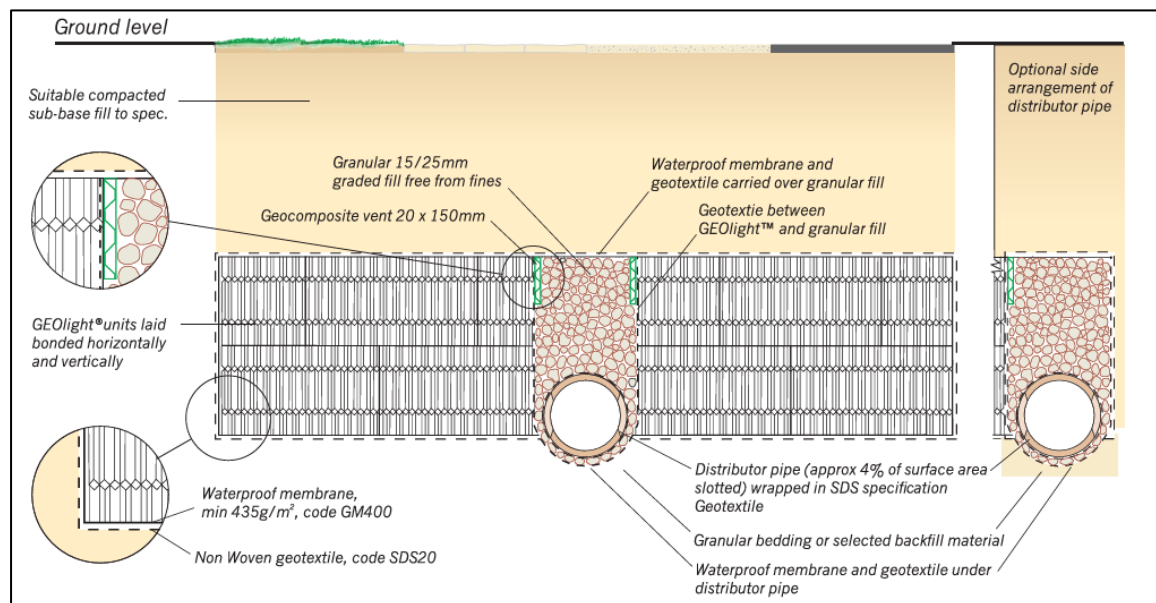

Figure 3: SDS GEOLight Cross Section
- 4.8 Plots 48, 49 & 51 have shown an arrangement that differs from the design outlined within the construction detail on sheet 091.5061.551 C01, this is likely due to the use of the SDS GEOLight. This product typically requires a specific arrangement, including a perforated pipe running centrally through the attenuation crates, as illustrated in **Figure 3** below. However, the contractor has instead installed an in-situ pipe that has been hand-cut with spiral slits to function as a perforated pipe, intended to feed water into the crates. This pipe appears to have been installed without appropriate bedding. Furthermore, the structural integrity of the pipe has likely been compromised due to the hand-cut slits, which is also evident from the CCTV footage. There also appears to be no restraint preventing the pipe from shifting or rotating. As a result, there is no assurance that the slits will remain correctly oriented (i.e. facing downward towards the crates).